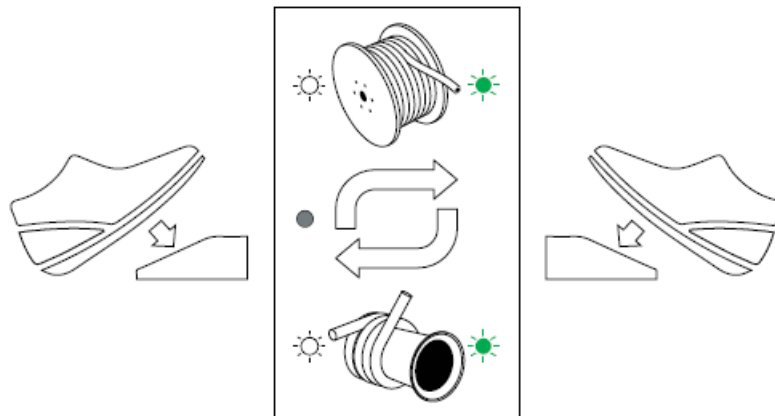

Figure 13
11. Depress the foot switch on the puller/feeder, the green Endpoint LED will light up next to the Puller or Feeder icon.(Fig.13)